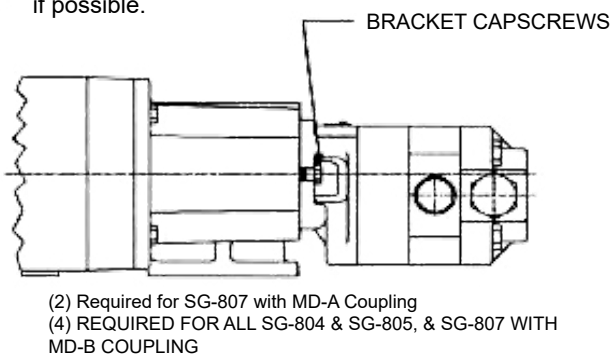

FIGURE 9
1. Remove piping from the ports and remove the mounting capscrews securing the pump to the bracket (See Figure 9). Support larger pumps with an overhead hoist if possible.
Do not place fingers near mounting surface to avoid pinching (See **Figure 9** on page 7).